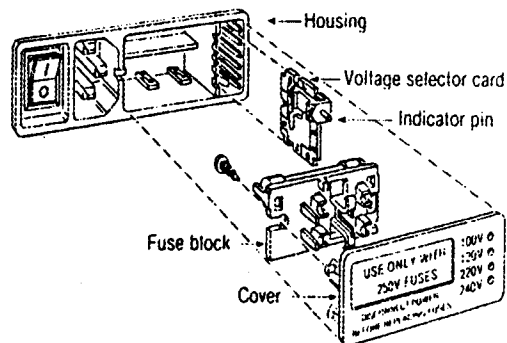

Figure 2.1 - Voltage Selector Card Removal
3. Pull the voltage selector card straight out of the housing, using the indicator pin (See Figure 2.1 below).